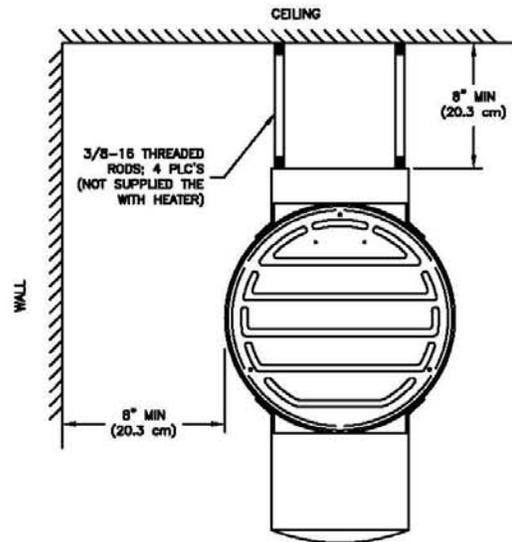

Figure 3
4. Install the heater with wall or ceiling mounting brackets furnished with the unit. Optional threaded rods may be supplied for mounting. (See Fig. 3).